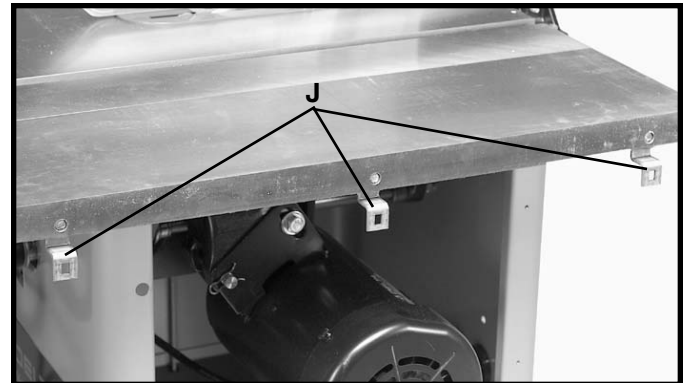

Fig. 42
8. Fig. 42, illustrates Z-brackets (J) properly assembled to extension wing.